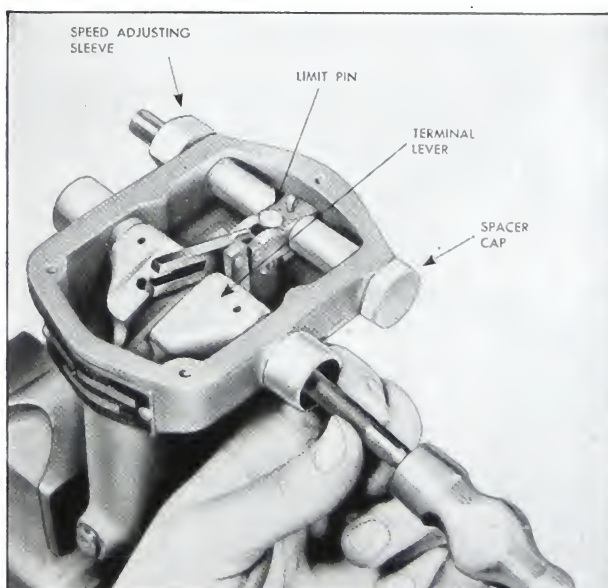

Fig. 5-55. Driving out shaft
6. Insert rod in opening and drive out opposite shaft. Fig. 5-55.